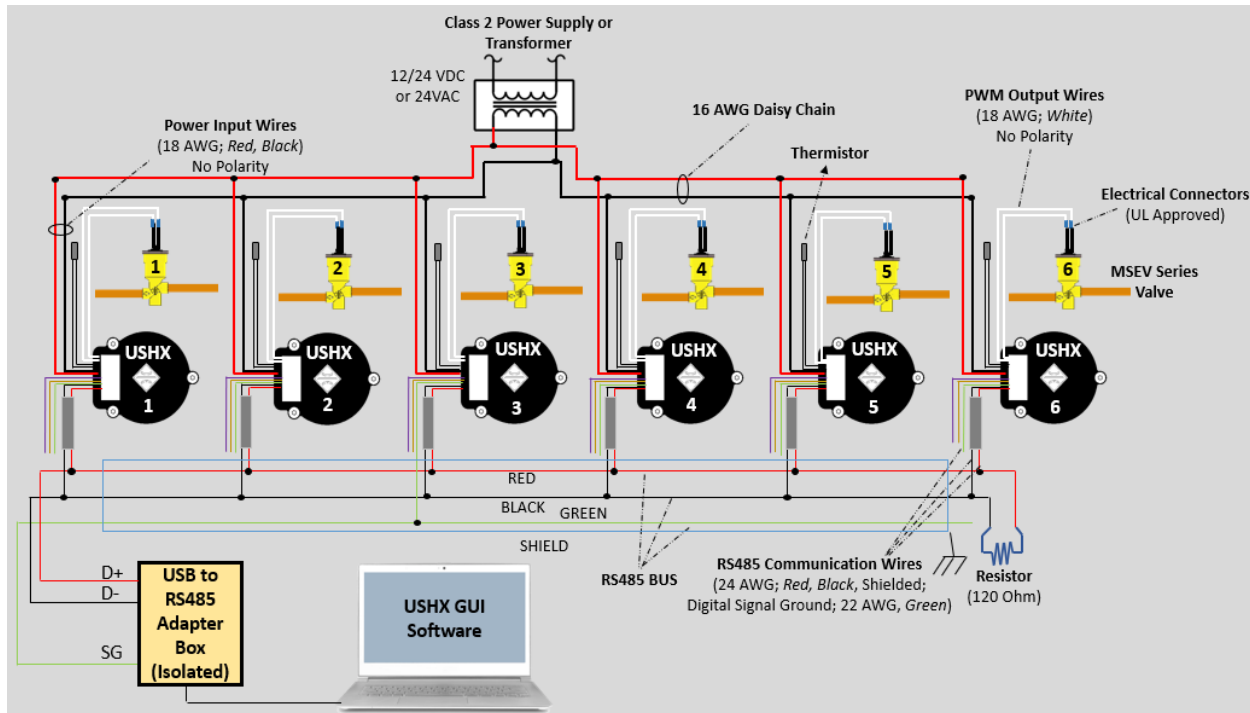

Figure 3-5 Multiple USHCs and MSEV series valves networking diagram
The wiring schemes of the 'Multiple USHCs and MSEV Series Valves' setup and 'Multiple USHSs' setup are the same except that the PWM output wires of each USHS for the 'Multiple USHSs' setup process should be disconnected, terminated with wire nuts, and wrapped with electrical tape so that they do not form short circuits with each other or any other wires or metal surfaces. As for the 'Multiple USHCs with Multiple MSEV Series Valves' setup process, the PWM output wires should be connected to the valves as shown in **Figure 3-5**.
6. Form a daisy chain with the power lines by connecting the USHX power input cables (18 AWG red/black wires) that are closest to the transformer on either side (USHX 3 and 4), as shown in **Figure 3-5**. Use 16 AWG stranded copper wire for extensions.
7. Run the power input wires from USHX 3 to USHX 2 and then from USHX 2 to USHX 1 as shown in **Figure 3-5**.
10. Create a daisy chain for the RS485 BUS as shown in **Figure 3-5**. Connect the gray RS485 communication wire of USHX 1 to USHX 2. Use similar communication cables when extensions are required. Do not connect the data ground wire between USHX 1 and 2. It should remain unconnected and protected with wire nuts and wrapped with electrical tape.
12. For each transformer, only one USHX data ground wire should be connected to the RS485 adapter signal ground input. As shown above in **Figure 3-5**, only the data signal ground wire (green wire) of USHX 3 is connected to the RS485 adapter signal ground input.
13. At the end of each daisy chain, install a 120 Ω termination resistor, as shown in **Figure 3-5**.